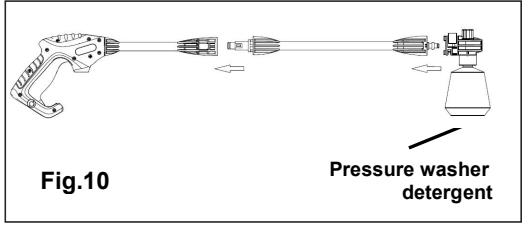

Fig.10
8. Check that the electrical supply voltage and frequency (Volt/Hz) correspond to those specified on the pressure washer rating plate. If the power supply is correct, you may now plug the pressure washer into the power outlet (Fig. 10).
1. Remove the cap from the detergent bottle and fill it with detergent designed specifically for use with pressure washers (Fig. 10).